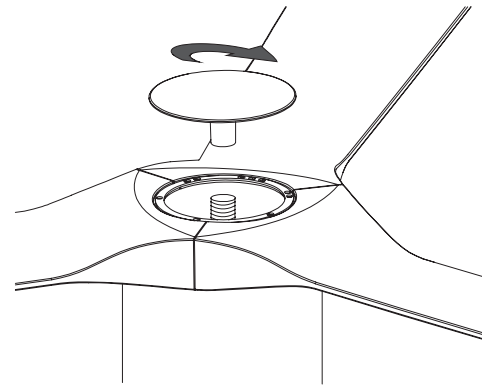

FIGURE 16
3. Secure the bottom of the fan blades together using the provided blade collector ring and hardware (Fig. 16).